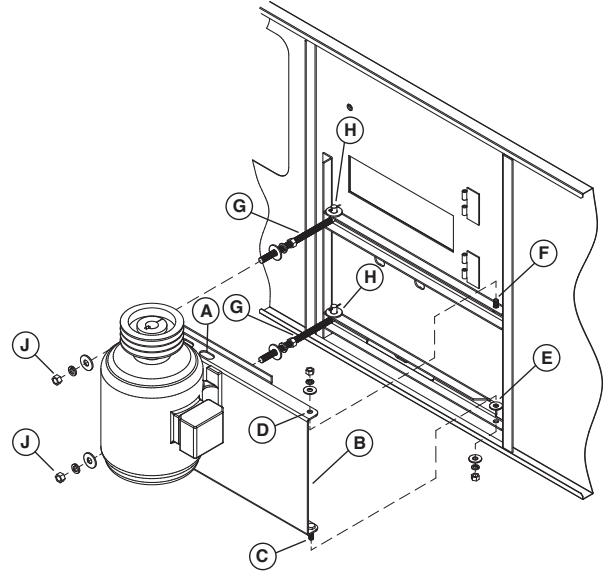

Figure 15 – External Motor Installation
1. Study Figure 15 before installing the motor base on the unit.